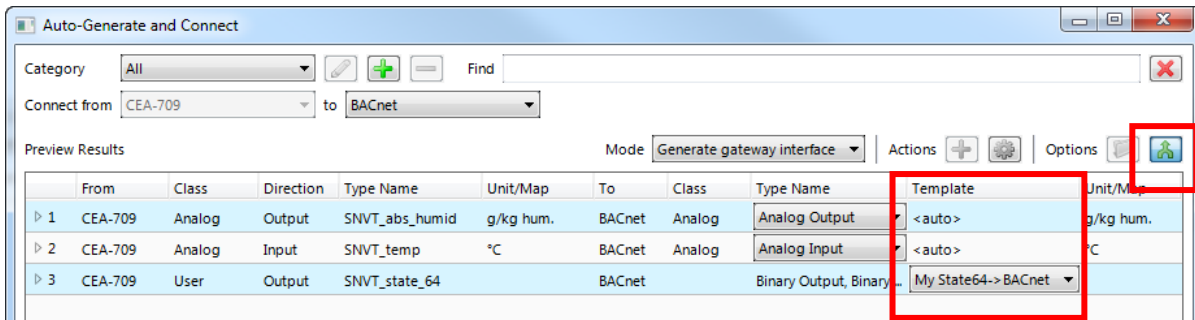

Figure 175: Auto-generate and connect with auto-generate template.
7. Select an auto-generate template in the drop-down box of the **Template** column as shown in Figure 175.